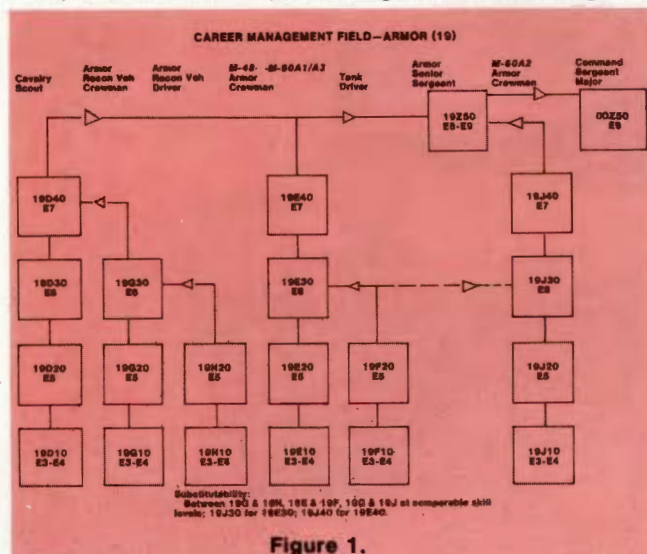

Figure 1.
Under this new Armor career field, designated CMF 19, each soldier will be classified by a position-specific, weapon-specific MOS (figure 1). At skill level (SL) 1, tankers will be identified as either loader/gunners (19G, 19E, 19J) or drivers (19H, 19F). Moreover, upon meeting time-in-grade, time-in-service, and other promotional requirements, both loader/gunners and drivers for each weapon system are eligible to progress to SL2 and promotion to grade E5 while still remaining at their original crew position. This is called "the flexible grade structure." Upon advancement to SL3 and promotion to staff sergeant (E6), the drivers will pick up either 19G, 19E, or 19J, depending upon their weapon system. The E6's then proceed to E7 (SL4) with the Delta, Echo, or Juliet identifier, then merge at the senior sergeant
Even though figure 1 indicates liberal substitutability, commanders and personnel managers will give priority to the assignment of newly trained soldiers to the weapon system and crew position for which they received entry-level training. It is envisioned that this substitutability rule will be operational for approximately 1 year to assist the conversion from CMF 11 to CMF 19.
For all of these reasons, make sure your records show your particular qualifications so the Enlisted Master File at HQDA can be updated prior to the March conversion. This will assist assignment managers in correcting MOS imbalances in the Armor Force. Other armor MOS's must receive priority over non-CMF 19 specialties in the award of secondary and additional MOS's to armor soldiers. If you have a secondary MOS in another career management field, you should request that your personnel manager redesignate that MOS as an additional MOS, and concurrently award you an armor SMOS. Make sure that the SMOS does not merge with your PMOS at grade E7 or below, e.g., with a PMOS 19D one could not be awarded a SMOS of 19G or 19H. (See figure 1.) Figure 2 illustrates a possible SMOS for each PMOS in CMF 19.